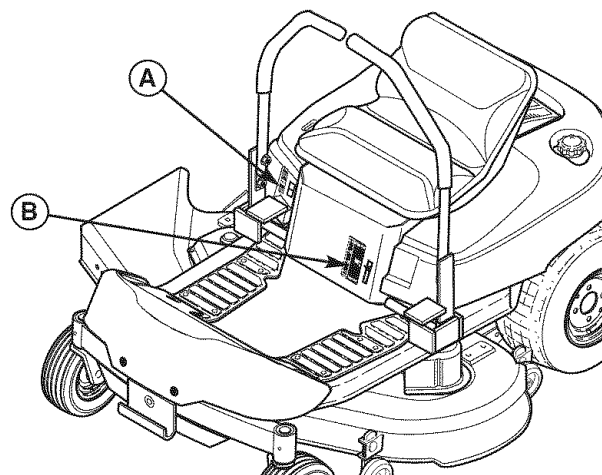

Figure 33. Cutting Height Adjustment
To increase the mower cutting height (raise the mower deck), press the top of the mower cutting height switch (A, Figure 33) To decrease mower cutting height (lower the mower deck), press the bottom of the switch. Mower cutting height range is 3-3/4" to 1-1/2". The cutting height gauge indicates the position of the mower deck.. The cutting height gauge (B) is located on the front of the rider, just behind the driver's left leg.